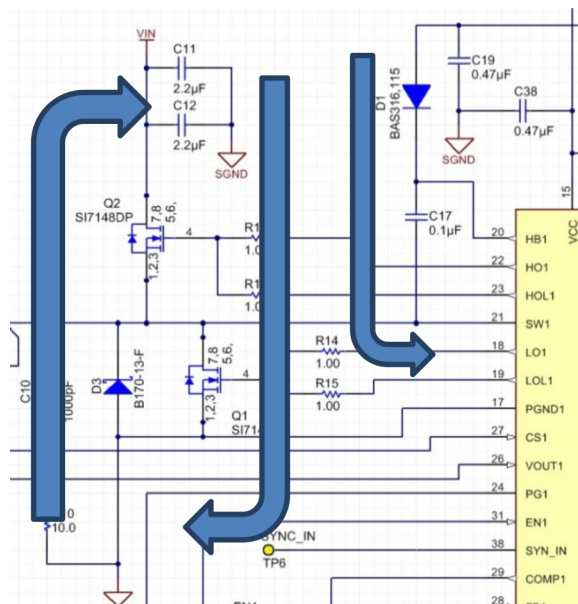
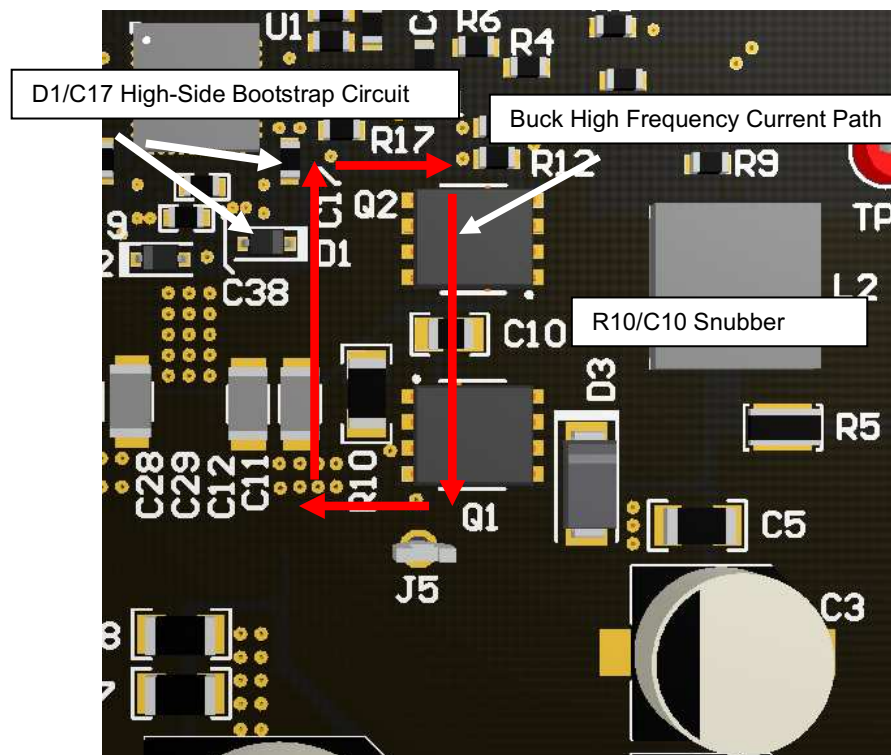

Figure 41. Synchronous Buck Power Flow
Figure 42. Synchronous Buck High Frequency Current Path
- Locate the gate drive components (D1 and C17) together and near the controller IC; refer to Figure 41. Be aware that peak gate drive currents can be as high as 4 A. Average current up to 150 mA can flow from the V_{CC} pin to the V_{CC} capacitor through the bootstrap diode to the bootstrap capacitor. Size the traces accordingly.
- Figure 41 shows the schematic of the high frequency loops of one synchronous buck channel. The current flows through Q1 and Q2, through the power ground plane and back to VIN through the ceramic capacitors C11 and C12. This loop must be as small as possible to minimize EMI. Refer to Figure 42 For the recommended PCB layout.